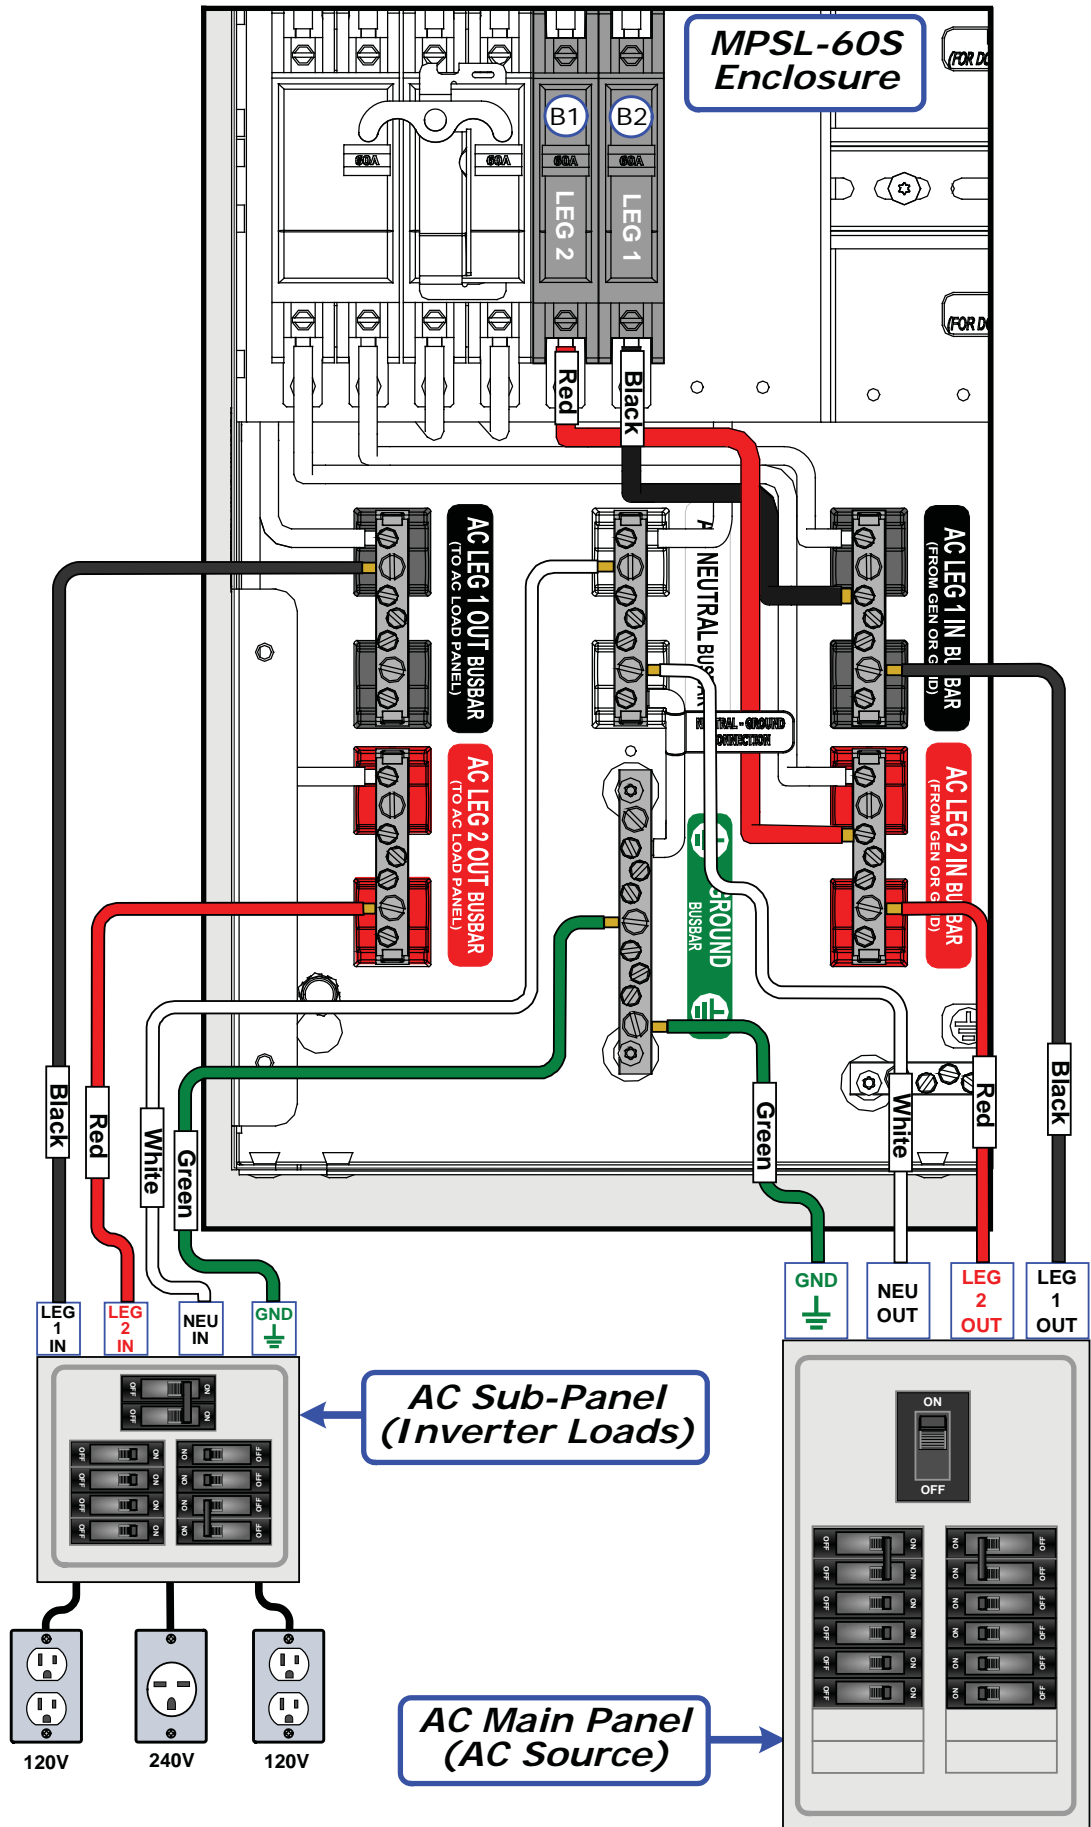

Figure 2-23b, MPXS-60S / MPSL-60S External AC Wiring
**External AC Main Panel Wiring** (see Figure 2-23b)
**External AC Sub-Panel Wiring** (see Figure 2-23b)